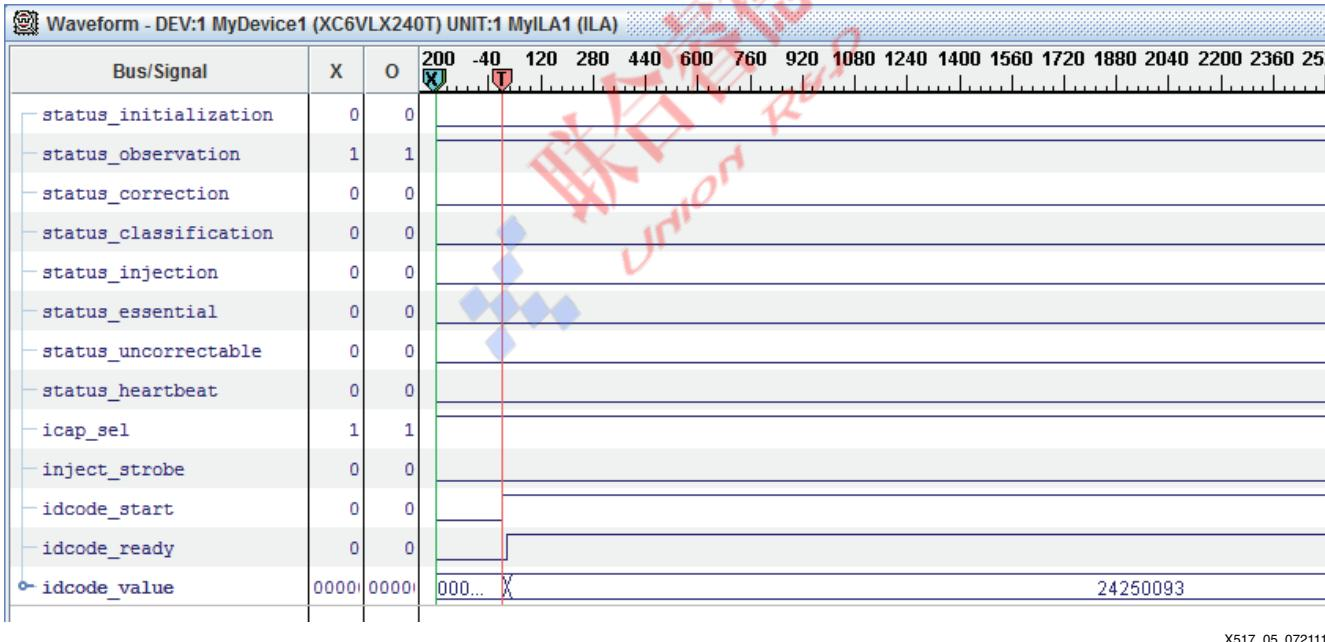

Figure 5: ML605 Board IDCODE Result
9. Figure 5 shows the results, including the **IDCODE** value (**0x24250093**) for the ML605 board. The expected **IDCODE** value using the SP605 board is **0x34028093**. These values might differ, depending on the board revision in use. For other valid device **IDCODE**s, refer to [Virtex-6 FPGA Configuration User Guide \[Ref 6\]](#) and [Spartan-6 FPGA Configuration User Guide \[Ref 7\]](#).